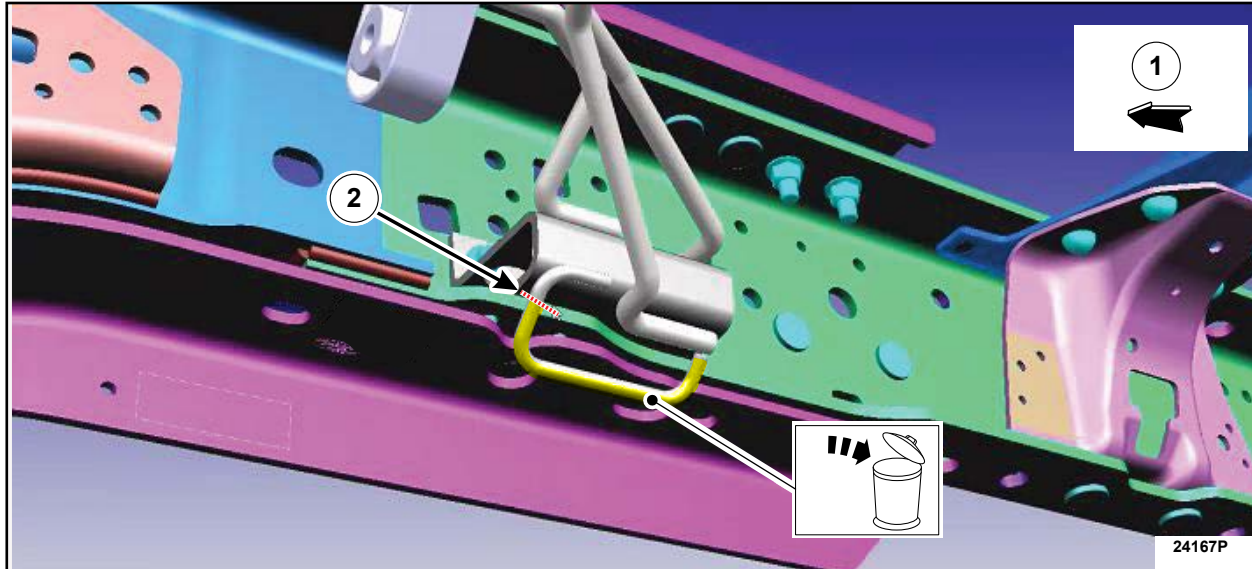

FIGURE 30
2. Using a suitable cutting tool, cut the exhaust hanger in the location shown in Figure 30. Remove and discard the cut off portion of exhaust hanger. See Figure 30.